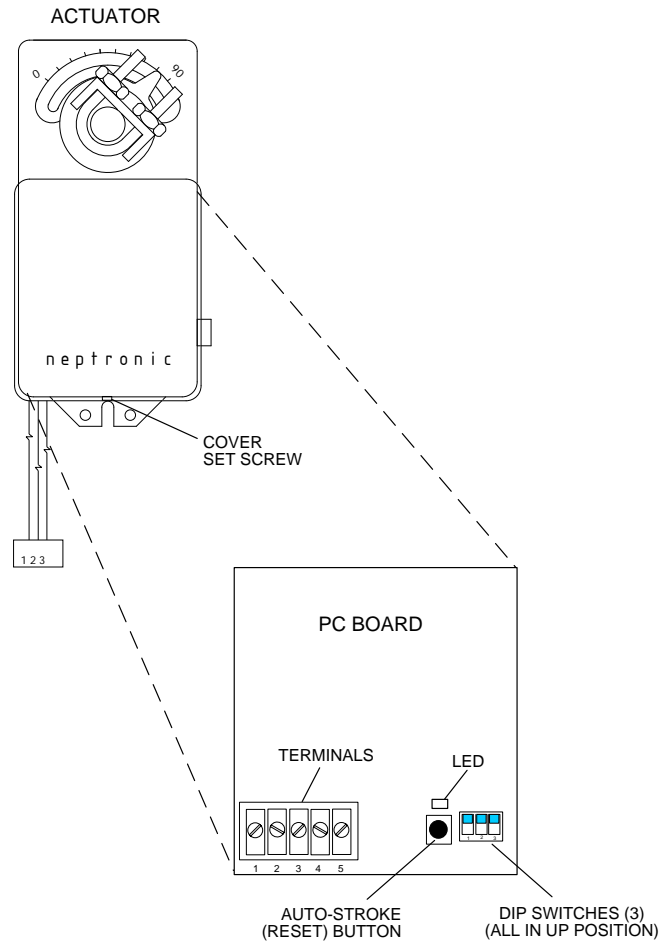

Figure 3-1. Actuator Adjustment
- 1) Refer to Figure 3-1 and loosen the Actuator cover set screw.
- 2) Remove the Actuator cover to access the PC Board containing the terminal connections, DIP switches, Auto-Stroke (Reset) button and LED shown in Figure 3-1.